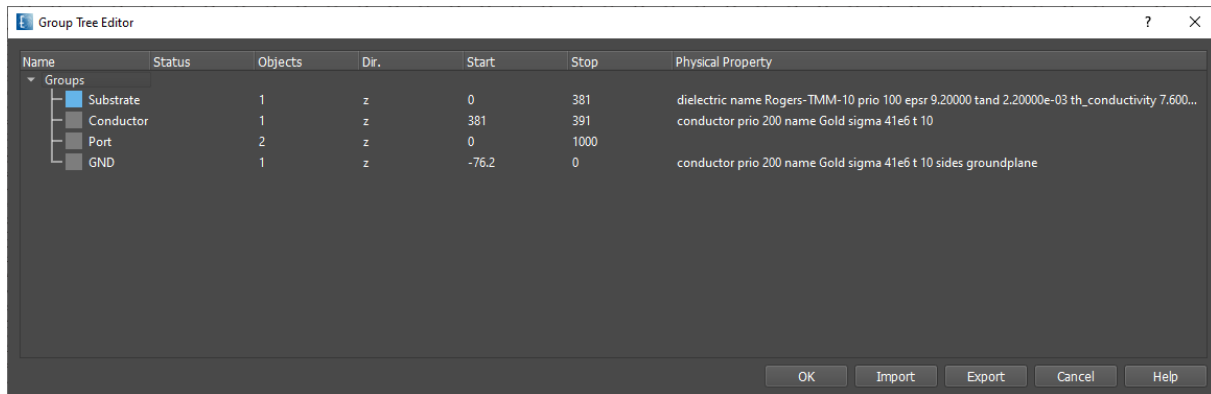

Figure 14.3.: Group Tree Editor
- - Start group tree editor, see Fig. 14.3